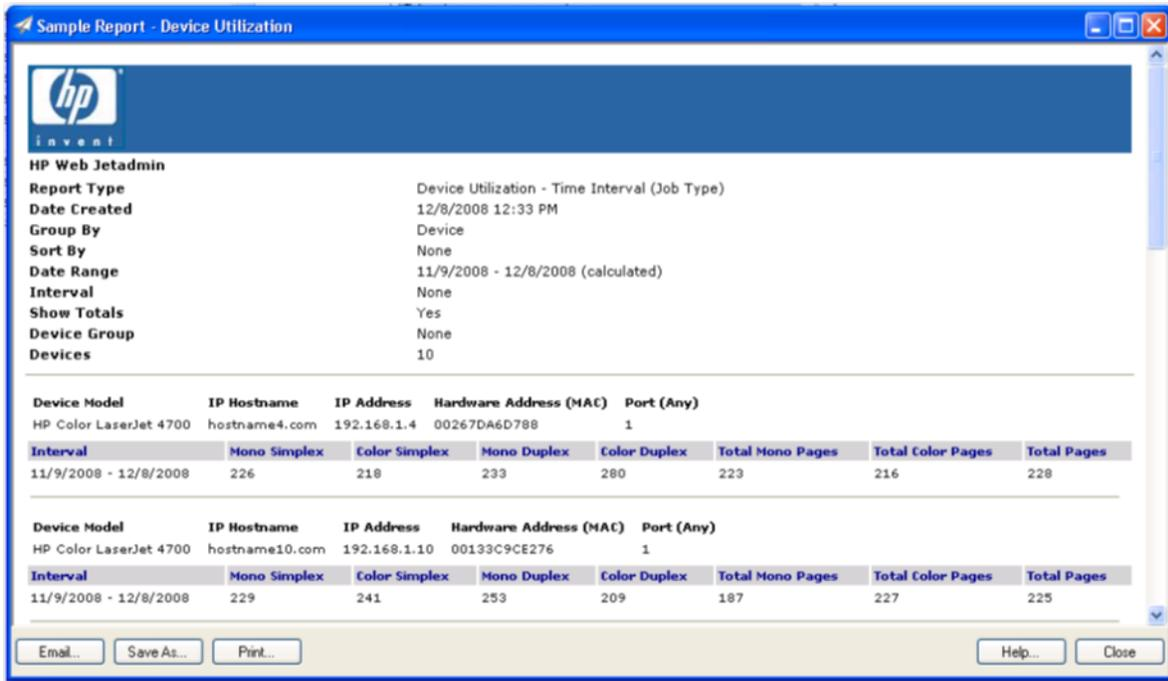

Figure 26: Device Utilization report
- Under **Report Data**, select the specific data relating to **Device Utilization** that appears as columns in the report (Figure 26). All page counts are totals within the date range of the report. The following are some of the more frequently used job types and media sizes.